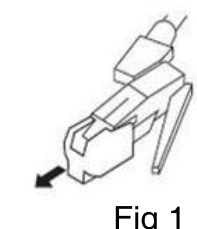

Fig 1
4. Remove the stylus cover (fig. 1) and keep in a safe place for future use